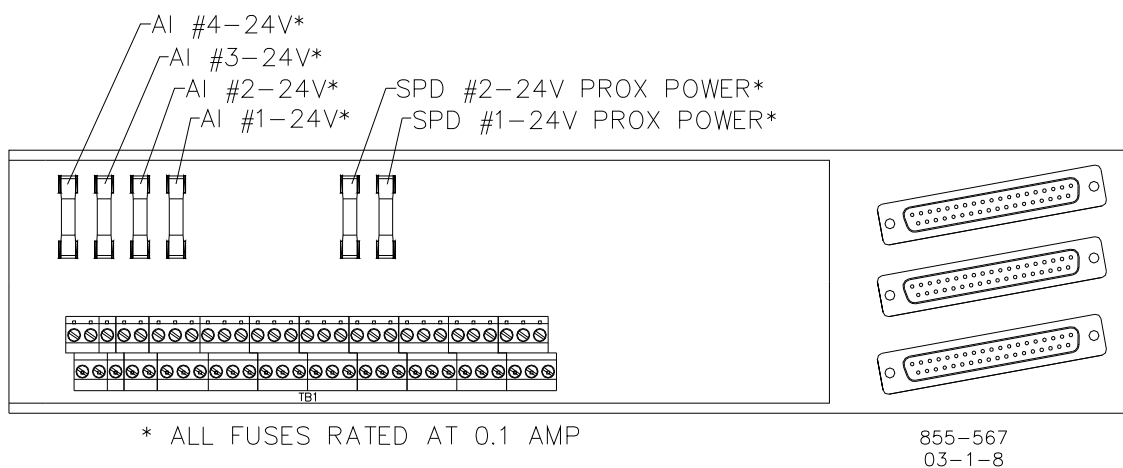

Figure 5-1. FTM Fuse Locations
4. Locate and replace fuse (See Figure 5-1) with one of the same size and rating (24 Vdc/0.1 A).